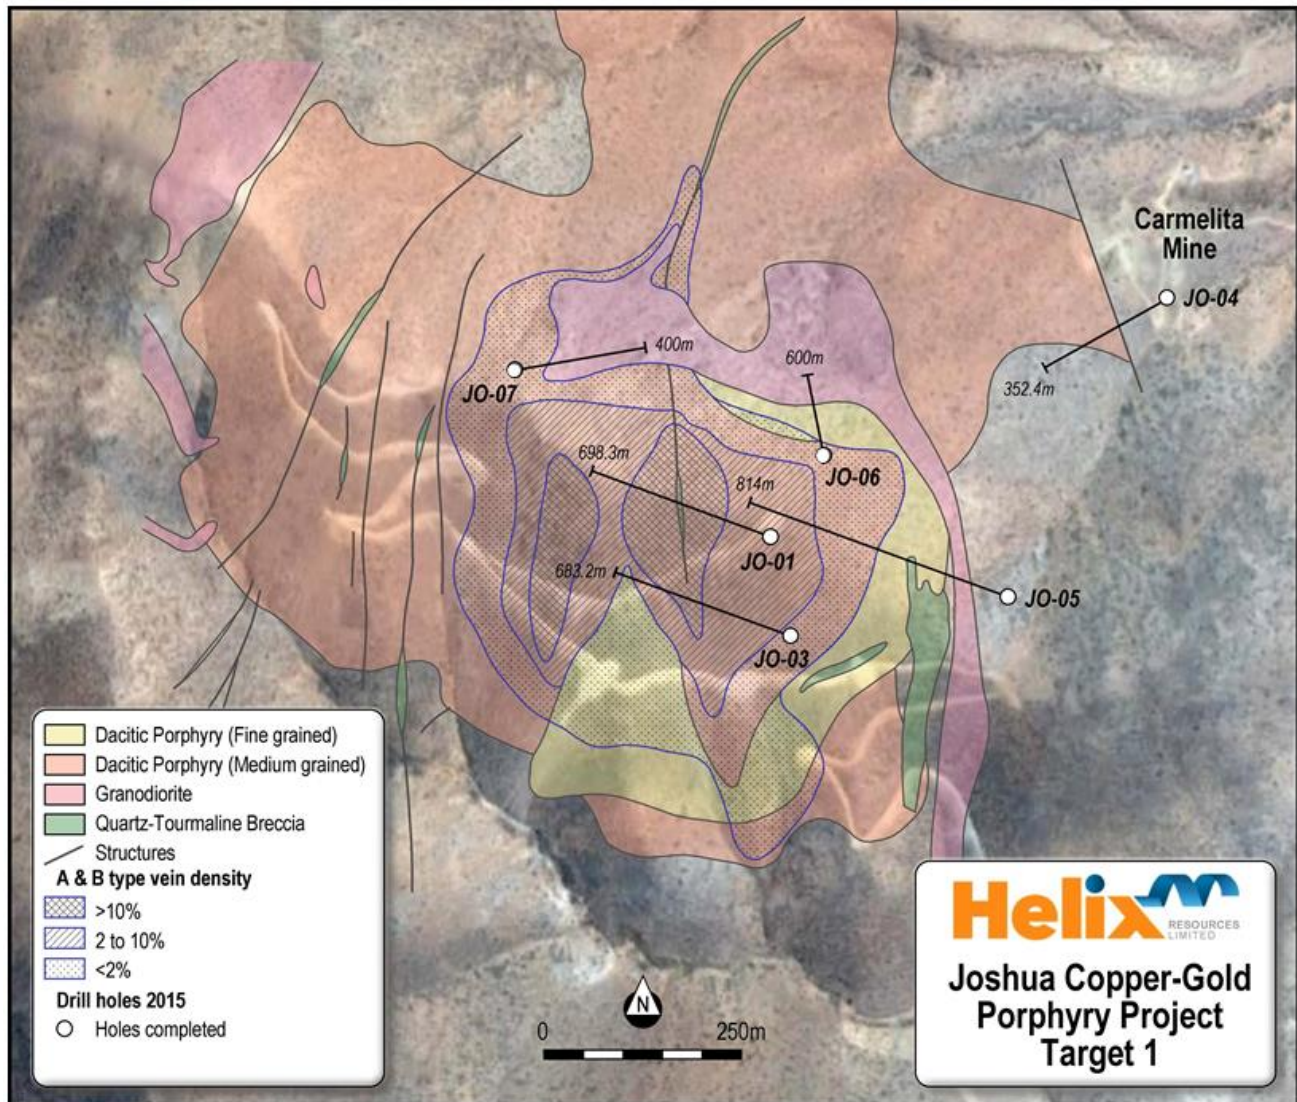

Figure 1: The 2015 Drill hole traces on Joshua Target 1 plan map
- **The drilling program has extended the strike of Target 1 to at least 800m; refer to Figure 1 for the location of the 6 drill holes.**